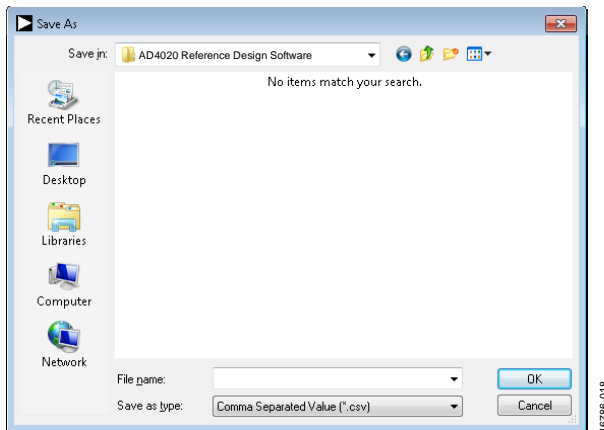

Figure 18. Save As Window
- **Save Captured Data** allows the user to save the current captured data for later analysis, and the file format is .csv. The user is prompted to select or enter the path of the file in the **Save As** window (see Figure 18). Save the file to an appropriate folder location.